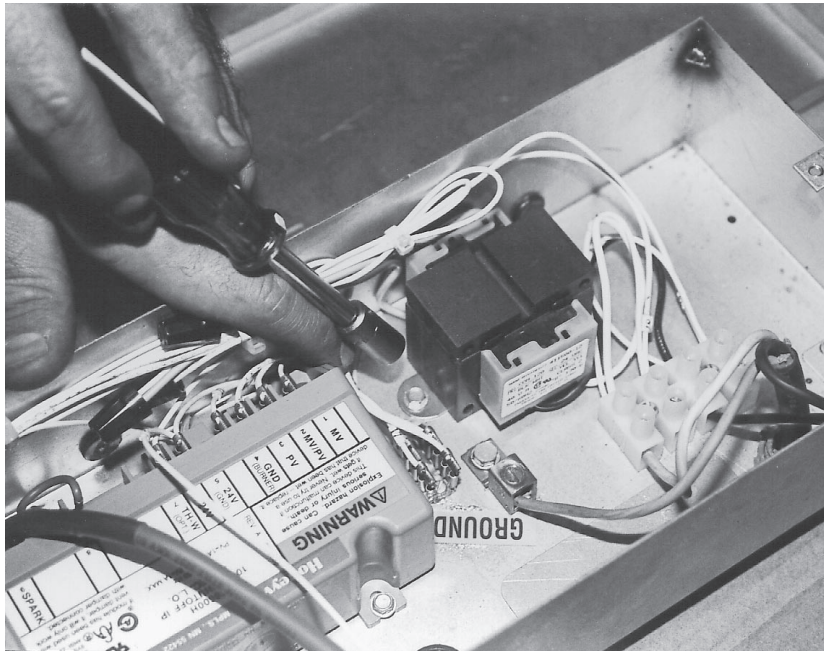

Fig. 85
4. With 1/4" socket, remove (2) screws securing the transformer to the supply box. (Fig. 85)